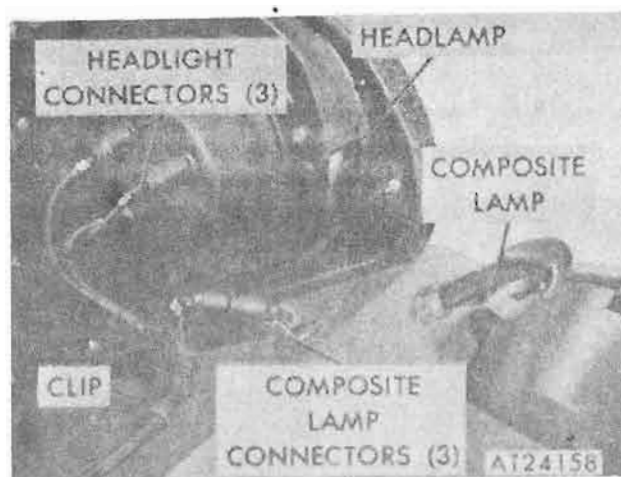

Figure 4-41. Disconnecting or connecting front lighting connectors on M151A2, M825 and M718A1 vehicles.
(16) Disconnect six electrical connections at both headlamp assemblies (fig. 4-41).